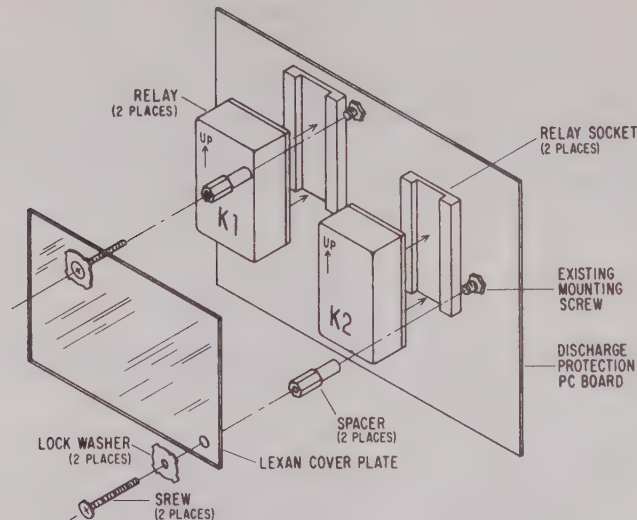

Figure A-8.
5. Install threaded spacer, provided, on screws projecting through the protection board, (see Figure A-8).
6. Install lexan plastic piece and lock washer on spacers using screws provided (see Figure A-8). This prevents relays from vibrating loose.